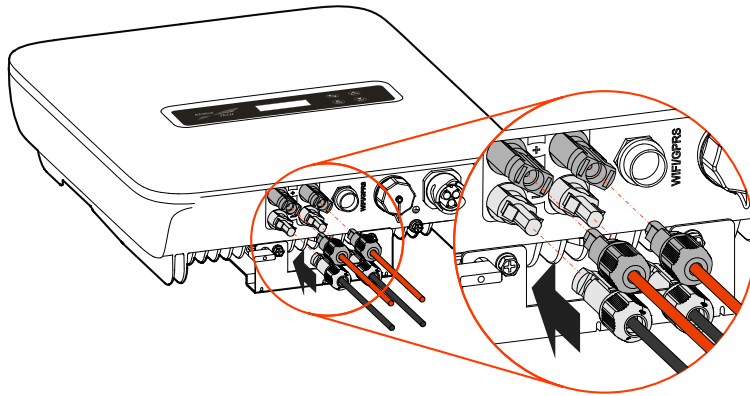

Figure3-20 Connect the DC connector
Step 6 Insert the positive connector and negative connector to the PV + and PV – terminals (as shown in Figure3-20) and tighten them. If there has a click sound, it means that the connector have been inserted properly.